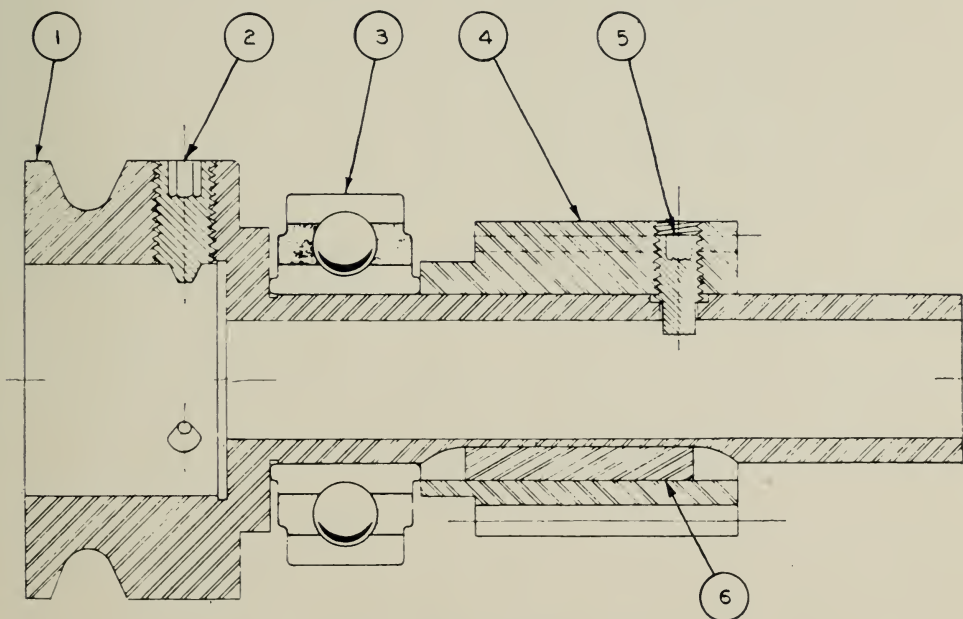

Fig. 2. Projector drive assembly
Remove the projector drive assembly from the mechanism by releasing the clamps on the lower portion of the center frame. The Allen screw (Item 5, Fig. 2), located between the teeth of the steel drive
pinion (Item 4, Fig. 2), and the three Allen screws (Item 2, Fig. 2) located in the socket unit (Item 1, Fig. 2) of the drive assembly, should be released sufficiently to enable the insertion of the soundhead's steel drive pinion of the associated gear. The clamps should be tightened to hold the entire projector drive assembly rigidly in its proper position. The mechanism should then be turned over by hand to ascertain if the steel drive pinion of the
drive shaft. After insertion of the soundhead's drive shaft, the Allen screw (Item 5, Fig. 2) should be tightened against the flat of the soundhead's drive shaft. The three Allen screws (Item 4, Fig. 2) should be tightened simultaneously into the teeth of the pinion on the drive shaft. The entire projector drive assembly should then be inserted into the mechanism so that its steel drive pinion meshes properly with its asso-
5. Set the variable shoe tension indicator to the desired point, "LOW," "STD," or "HIGH." (See Fig. 2.) The "LOW" position provides a film tension of about 225 grams, suitable for new, green film. The tension in the "STD" position is approximately 375 grams, which is correct for film in average condition. The "HIGH" position increases the tension to around 675 grams to aid in flattening badly buckled older films.